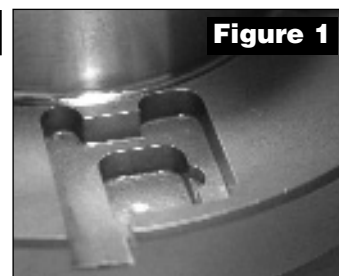

Figure 1
2. The spring and strut cavities have two levels (see *Figure 1*). The spring rests in the lower level and the strut rests on the upper level. The lower level of the cavity is a square with rounded corners, with a dimple machined into the right sidewall. The dimple area provides clearance for the center leg of the spring and is used as a guide for orienting the spring.